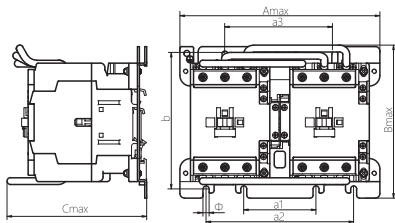

Figure 6 Outline and installation dimensions of NC8-40/N~100/N series AC contactors
3.6 See Figure 6 and Table 9 for outline and installation dimensions and wiring capacity of NC8-40/N~100/N series AC contactors.